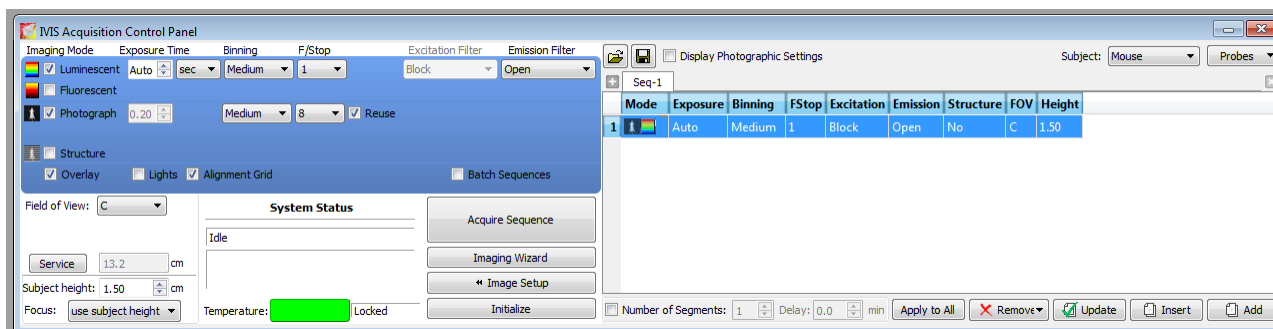

Figure 11: The figure above shows the Ivis Acquisition Control Panel.
8. In the Acquisition Control Panel, your imaging parameters will appear as set by the setup wizard. See Figure:11